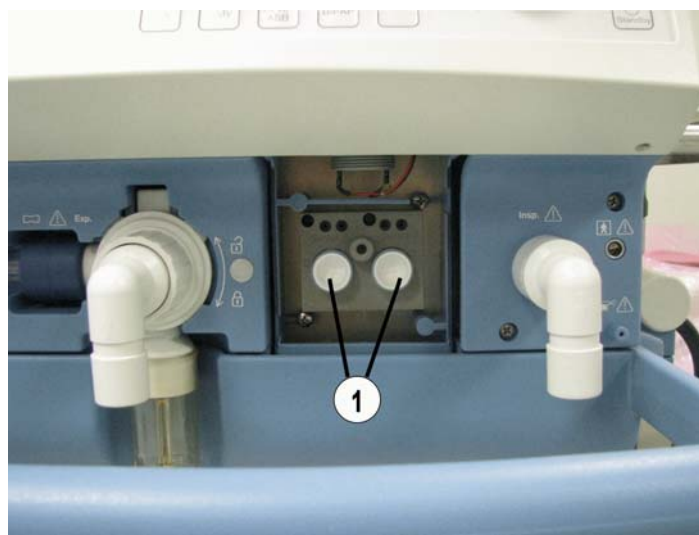

Fig. 34 Front view of unit; O2 sensors
3. Take the O2 sensors (Fig. 34/1) out of their mounts and dispose of them in accordance with local waste disposal regulations.